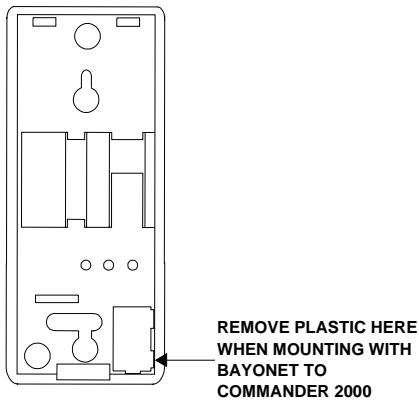

Figure 4. Removing Siren Plastic for Wire Entry
- 2) Looking at the back of the siren, use a needle-nose pliers to remove the plastic for wire entry (see Figure 4).